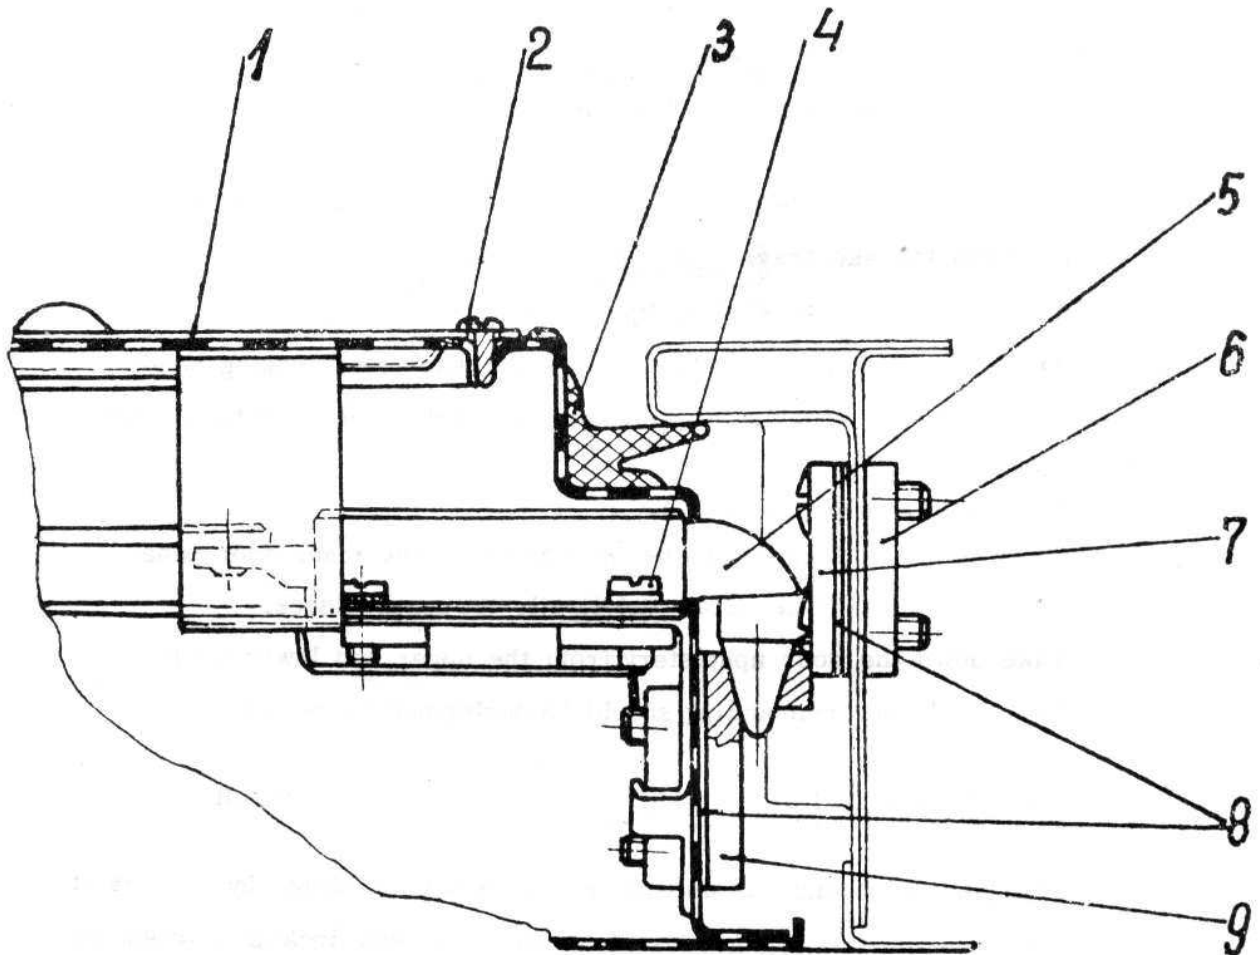

Fig.2.8. LOWER TAILGATE LOCKING DEVICE
- Open the lower tailgate and lubricate with some drops of oil the latch, operating it concomitantly from outside, in order to lubricate the contact faces between the latch and its guide in the tailgate (see fig.2.8.).